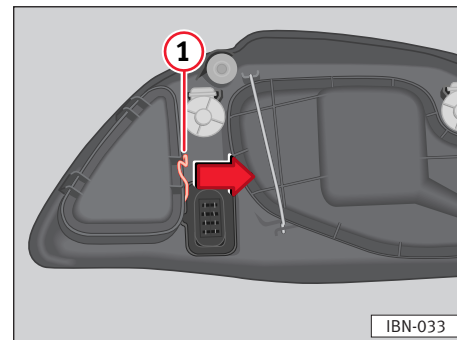

Fig. 152
- Move retaining rod ⇒ fig. 152 ① in the direction of the arrow and remove cover.